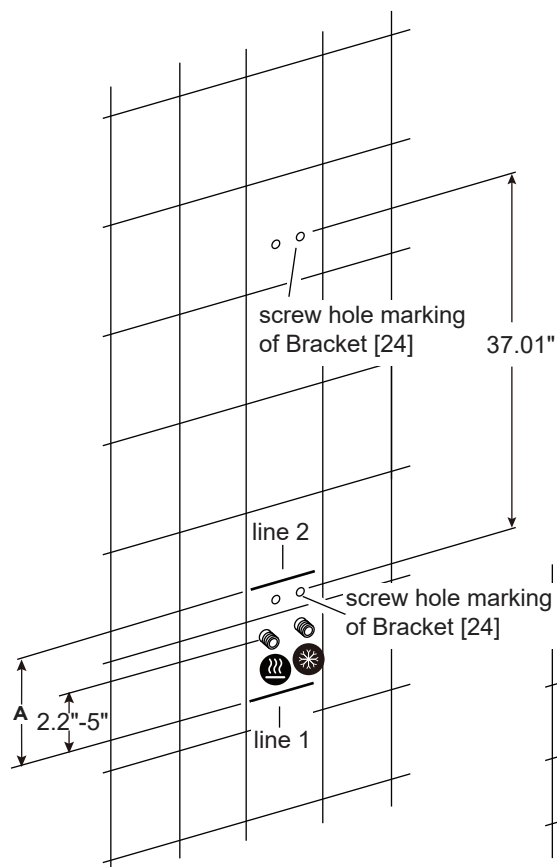

Fig 1.2
- 1-2** Measure the distance A between the bottom of the shower panel and the lower back bracket. Then draw line 2 above line 1 at the distance A. (Fig 1.2)
- 1-4** Position another **Bracket [24]** above the previous one on the wall so the screw holes are 37.01" above the screw hole marks for the first bracket and center with the center line between the outlets. Then mark the screw holes of the second **Bracket [24]** on the wall. (Fig 1.2)